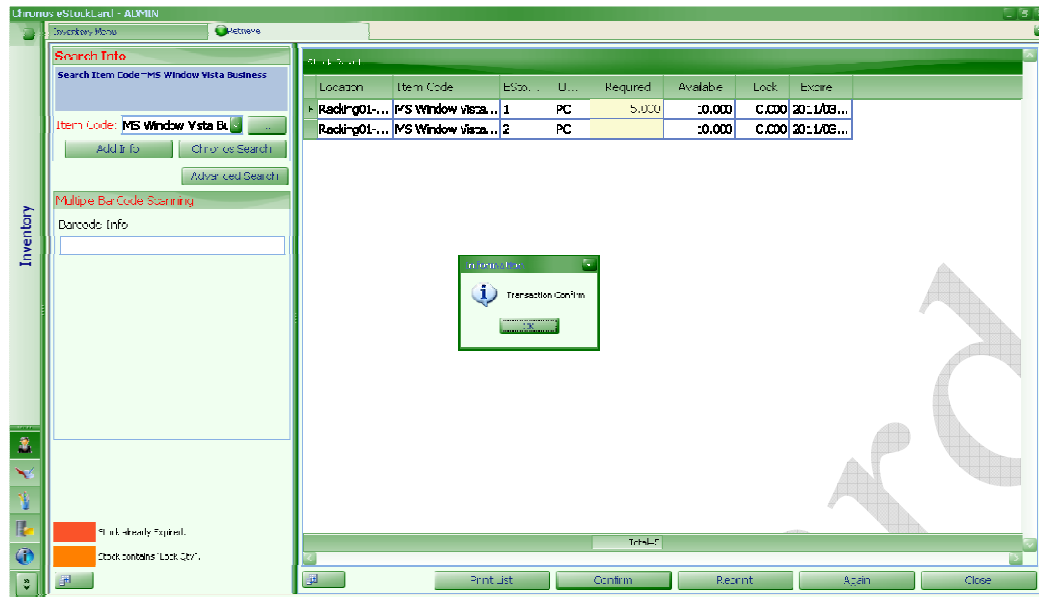

Fig. 45
- b. Enter Required Qty = 5, click “Confirm” (Fig. 45)